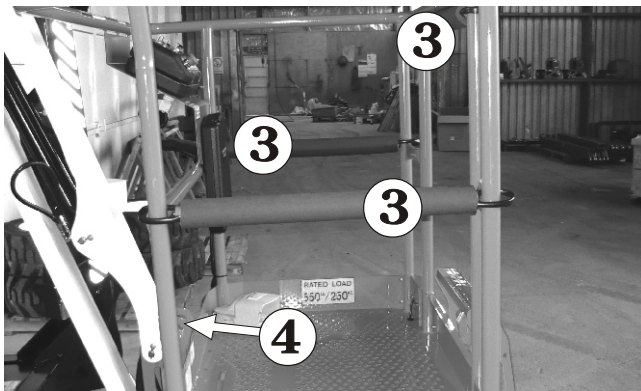

Figure 10.13
3. Enter the platform, close the gravity gate **3**, and attach the lanyard of your safety harness to one (1) of the anchor points **4** (see Figure 10.13).